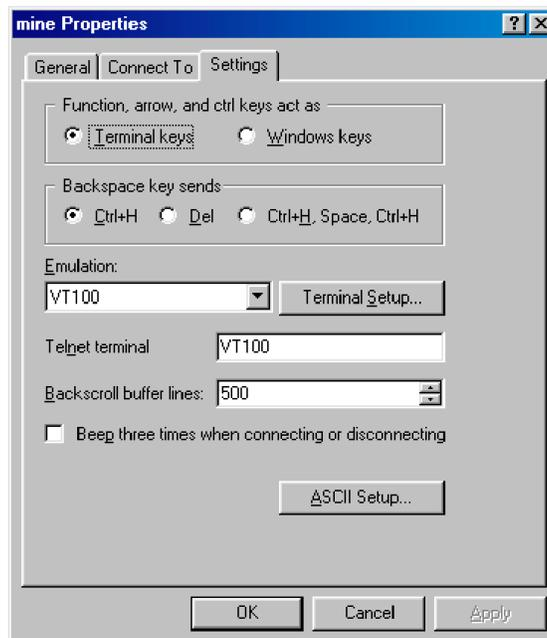

Figure 14. Terminal keys configuration
- Configure the Settings for *Function, arrow and ctrl keys act as* to *Terminal keys* as shown in figure 14.